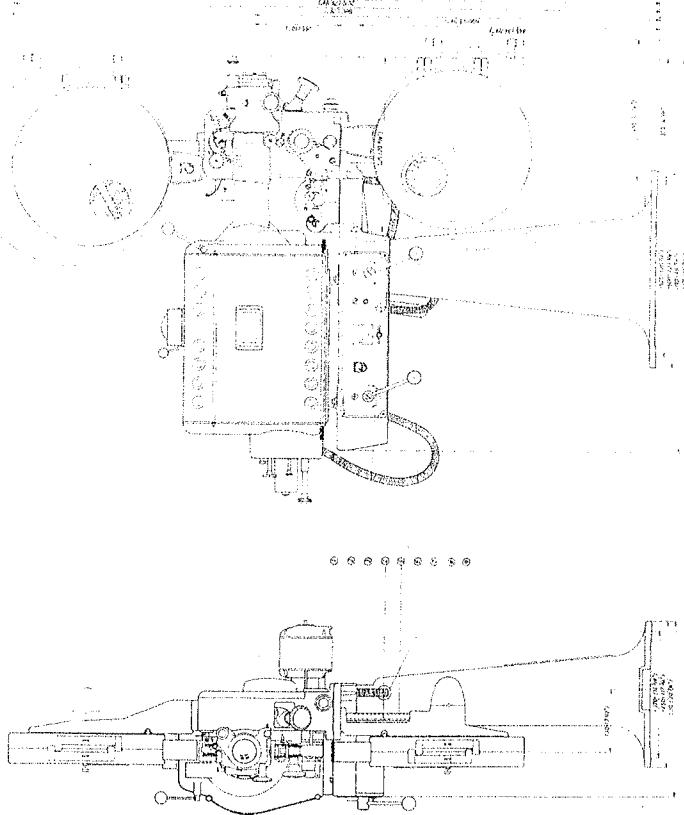

Fig. 3
1. Positioning of the pedestal (figs 3 and 4)
2. Fixing the mounting table (figs 3 and 4)
4. Aligning the spool boxes (figs 3 and 4)
Replace lever "9" (figs 3 and 4) by the control of the starting resistor.